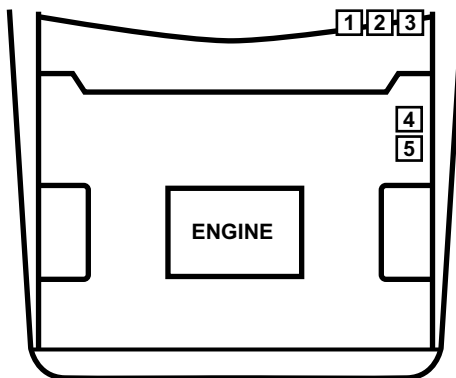

Figure 15-4 Loyale common connector locations
- “Loyale common connector locations” on page 177 (Table 15-4, Figure 15-4)